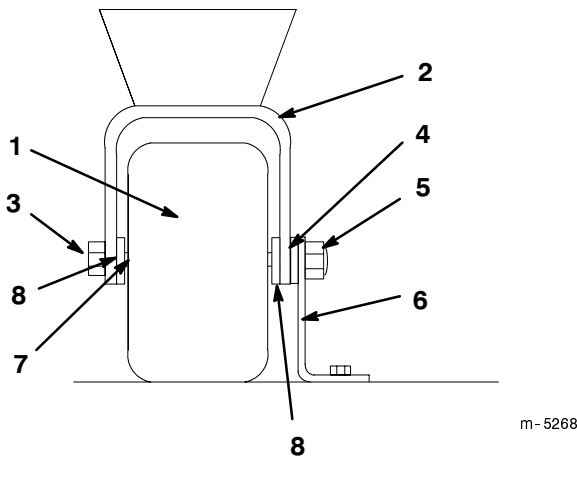

Figure 2
1. Remove locknut from bolt that fastens crate bracket to tail wheel (Fig. 2).
2. Remove crate bracket from wheel bolt. Install locknut on to bolt until fork clamps onto spacer (Fig. 2).